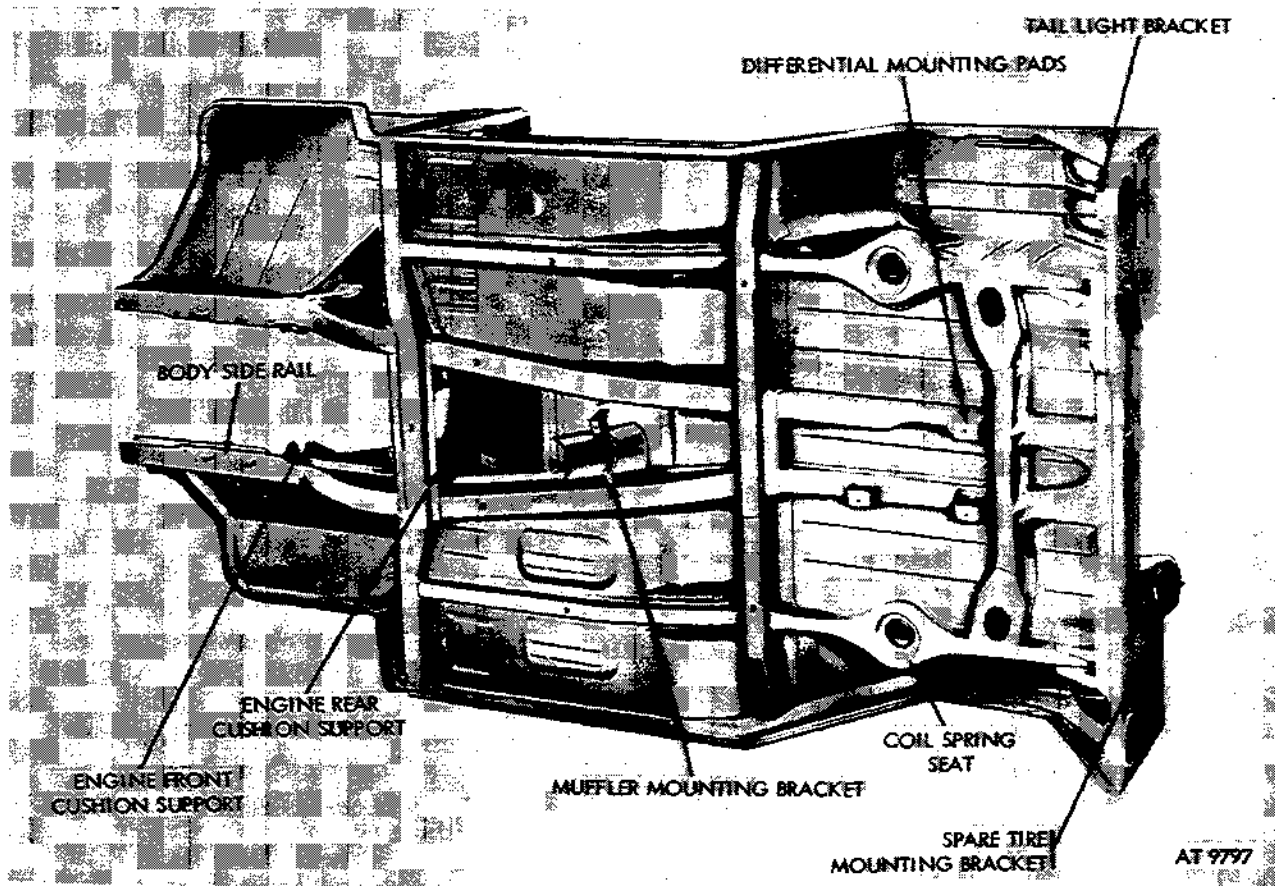

Figure 2-380. Unitized body and frame.
a. *Body and Frame.* The body is of the unitized body and frame design. Body panels, reinforcement, braces, and underbody frame are welded to form an integral unit (fig. 2-380).